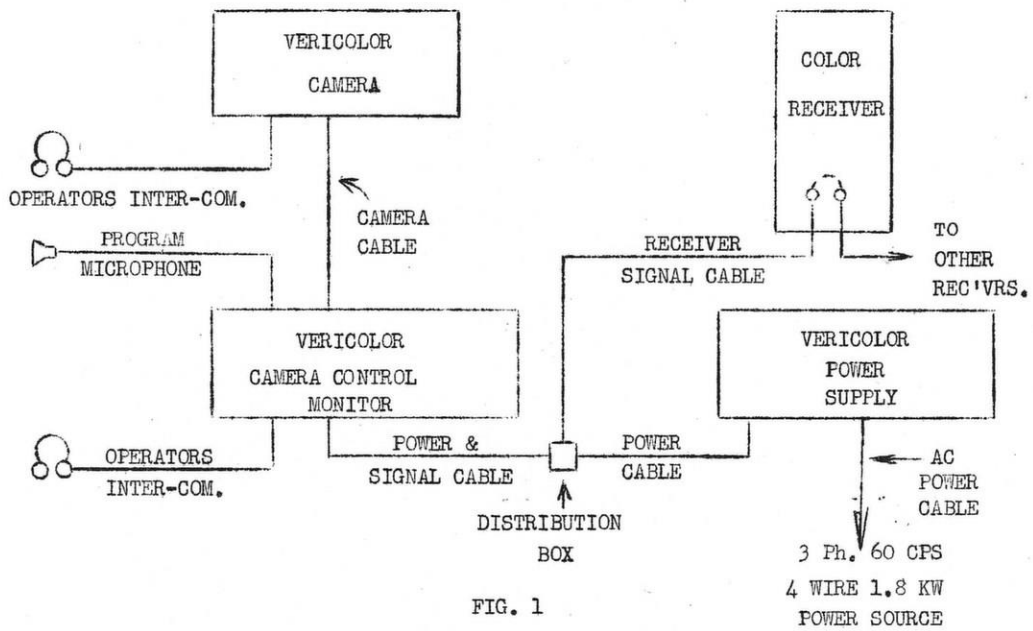

FIG. 1
- II. The Vericolor Television system was designed and manufactured for industrial and medical application. The equipment and accessories necessary for producing a composite color television signal at either a fixed or mobile location, is shown in the block diagram of fig. 1.